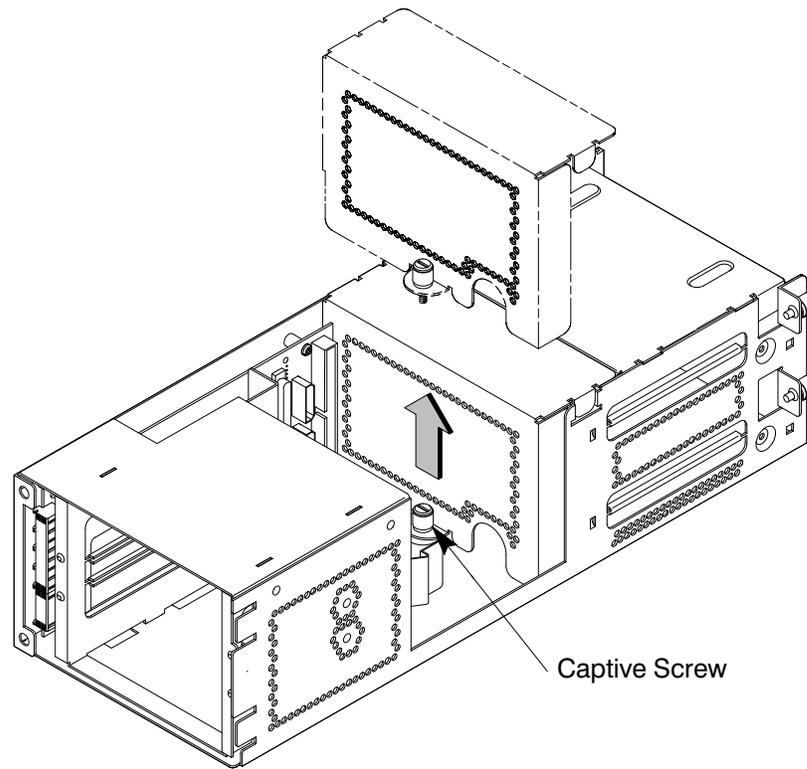

Figure A-4. Removing EMI Plate
6. Unscrew the captive screw holding the EMI plate at the back of the removable drives and lift the plate up and out of the drawer, as shown in Figure A-4.